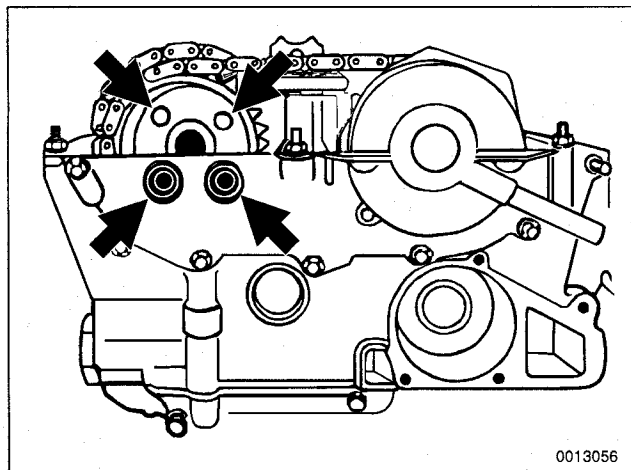

Fig. 26. Exhaust camshaft mounting bolts (arrows).
21. On 1993 and later engines: Remove access plugs from VANOS control unit in front of exhaust camshaft sprocket. Remove 4 bolts from exhaust camshaft sprocket (use Torx E10 socket). See Fig. 26.